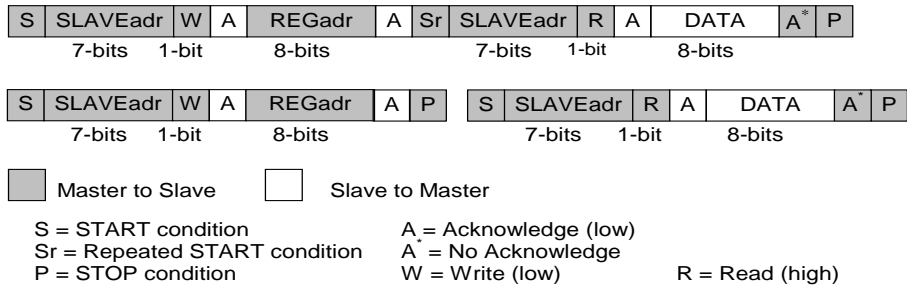

**Figure 10: I2C Byte Write (SDA Line)**
The I2C bus is monitored for a valid slave address whenever the interface is enabled. It responds immediately when it receives its own slave address. The acknowledge is done by pulling the SDA line low during the following clock cycle (white blocks marked with A in Figure 10 and Figure 11).
The protocol for a register write from master to slave consists of a START condition, a slave address with read/write bit, and the eight-bit register address followed by eight bits of data, terminated by a STOP condition. DA9142-A responds to all bytes with acknowledge (A), see Figure 10.